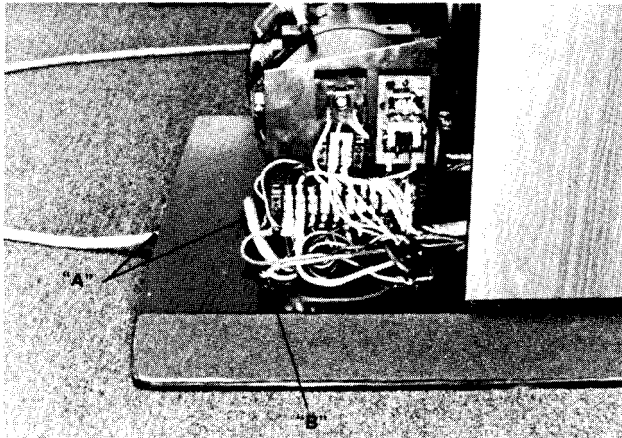

Fig. 32
2. Remove Strain Relief Bushings, Item "A", Fig. 32, from cord by grasping bushing with hand pliers (See "Special Tools" on Page 19), squeezing tab on bushing, and pulling bushing out of hole in base.
4. Remove (1) screw, Item "B", Fig. 32, securing the green ground wire to the base.
- a. Install new power cord by connecting black and white wire to terminal board and installing (1) # 10-24 x 318 self-tapping screw, Item "B", Fig. 32, through the green grounding wire terminal to secure the ground wire to the table base.